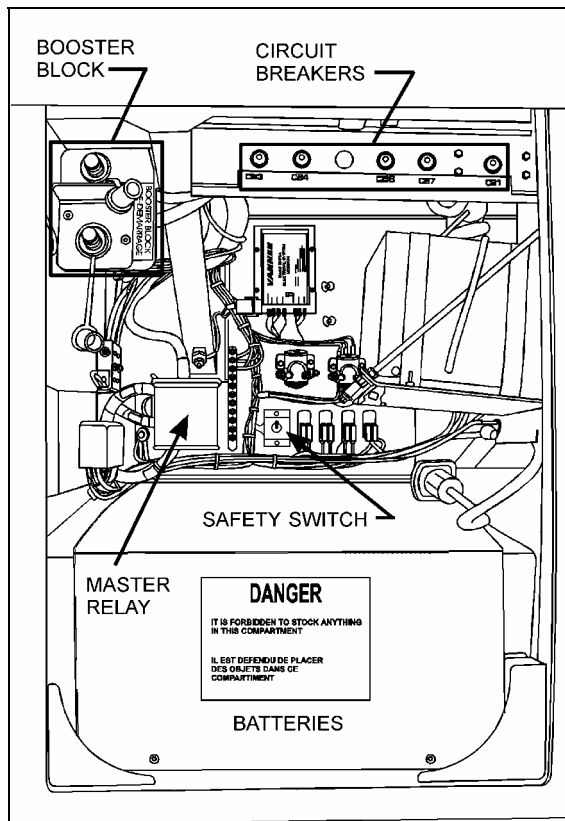
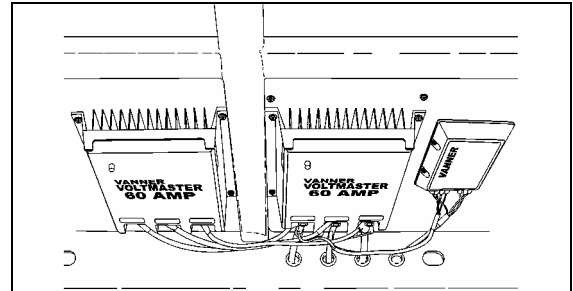

FIGURE 5: MAIN POWER COMPARTMENT (XL2-45) 06316
FIGURE 12: L.H. SIDE OF REAR BAGGAGE COMPARTMENT'S CEILING 06326
On XL2-40 coaches, booster block is located in the engine compartment on the R.H. side and is accessible through engine R.H. side door. On XL2-45 coaches, booster block is located in the main power compartment (Fig. 5).
XL2-40 and XL2-45 coaches are equipped with eight (8) main breakers; they are installed just below R.H. side rear baggage compartment's ceiling or in the main power compartment and in the A/C junction box in the evaporator compartment, they can be identified as follows (Fig. 5, 6, 7 and 8):
This compartment may contain the following components (Fig.12):
On XL2-40 coach, two (2) battery equalizers ("VANNER"-50 amps-12 & 24 volts) are installed just below L.H. side rear baggage compartment's ceiling. The reset buttons are located on the end of equalizers facing the center of the coach (Fig. 12). On XL2-45 coach the battery equalizers are located in the main power compartment (Fig. 5).